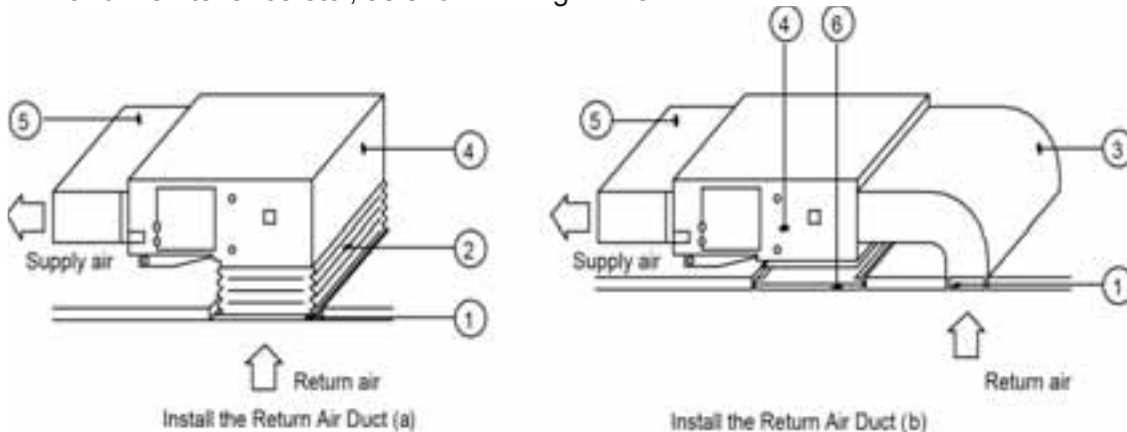

Fig 4.4.8
(2) If bottom return air is desired, just switch the rectangular flange and the return air cover plate.
- (3) Connect one end of the return air duct to the return air outlet with rivets and the other to the return air louver. For the sake of the convenience to freely adjust the height, use a canvas duct, which can be reinforced and folded with 8# iron wire.
- (4) More noise is likely to be produced in the bottom return air mode than the rear return air mode. A static pressure box will minimize the noise.
- (5) The installation method can be configured to match the requirements of the building and maintenance etc., as shown in Fig. 4.4.8.